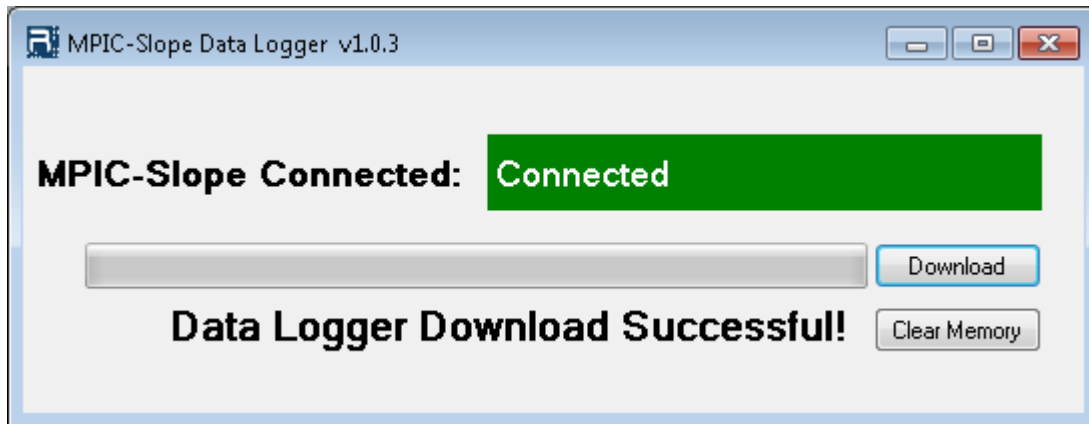

FIGURE 5.3: MAKE SURE THE LABEL INSIDE THE RED RECTANGLE IS GREEN AND DISPLAYS “CONNECTED” AND PRESS THE “DOWNLOAD” BUTTON INSIDE THE PURPLE RECTANGLE.
1. Make sure the MPIC-Slope is connected by looking at the MPIC-Slope Data Logger software and making sure there is a green bar that says “Connected” next to the “MPIC-Slope Connected” label shown in figure 5.3.
2. Press the “Download” button shown in figure 5.3.